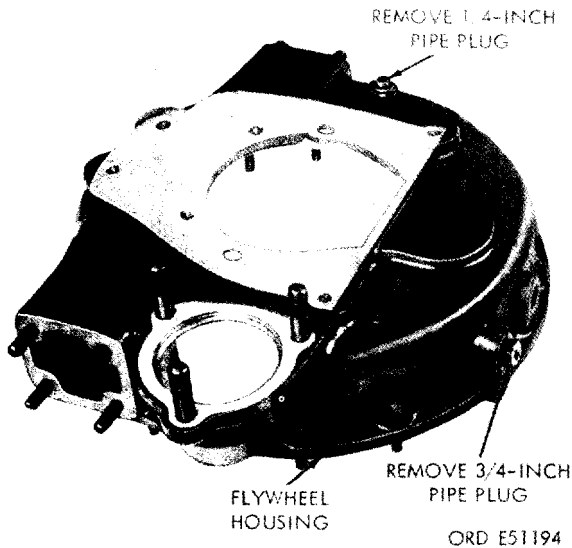

FIGURE 396. REMOVING OR INSTALLING PIPE PLUGS (LATE MODEL ENGINES).
a. Disassembly. Disassemble the flywheel housing following instructions on figures 396 and 397.
- (1) Cleaning. Clean the flywheel housing (F-2) as directed in paragraph 152 c.
- (2) Inspection. Inspect the flywheel housing (F-2) directed in paragraph 153 b.
d. Assembly. Refer to figures 396 and 397 and reverse the sequence of instructions to install the pipe plugs.